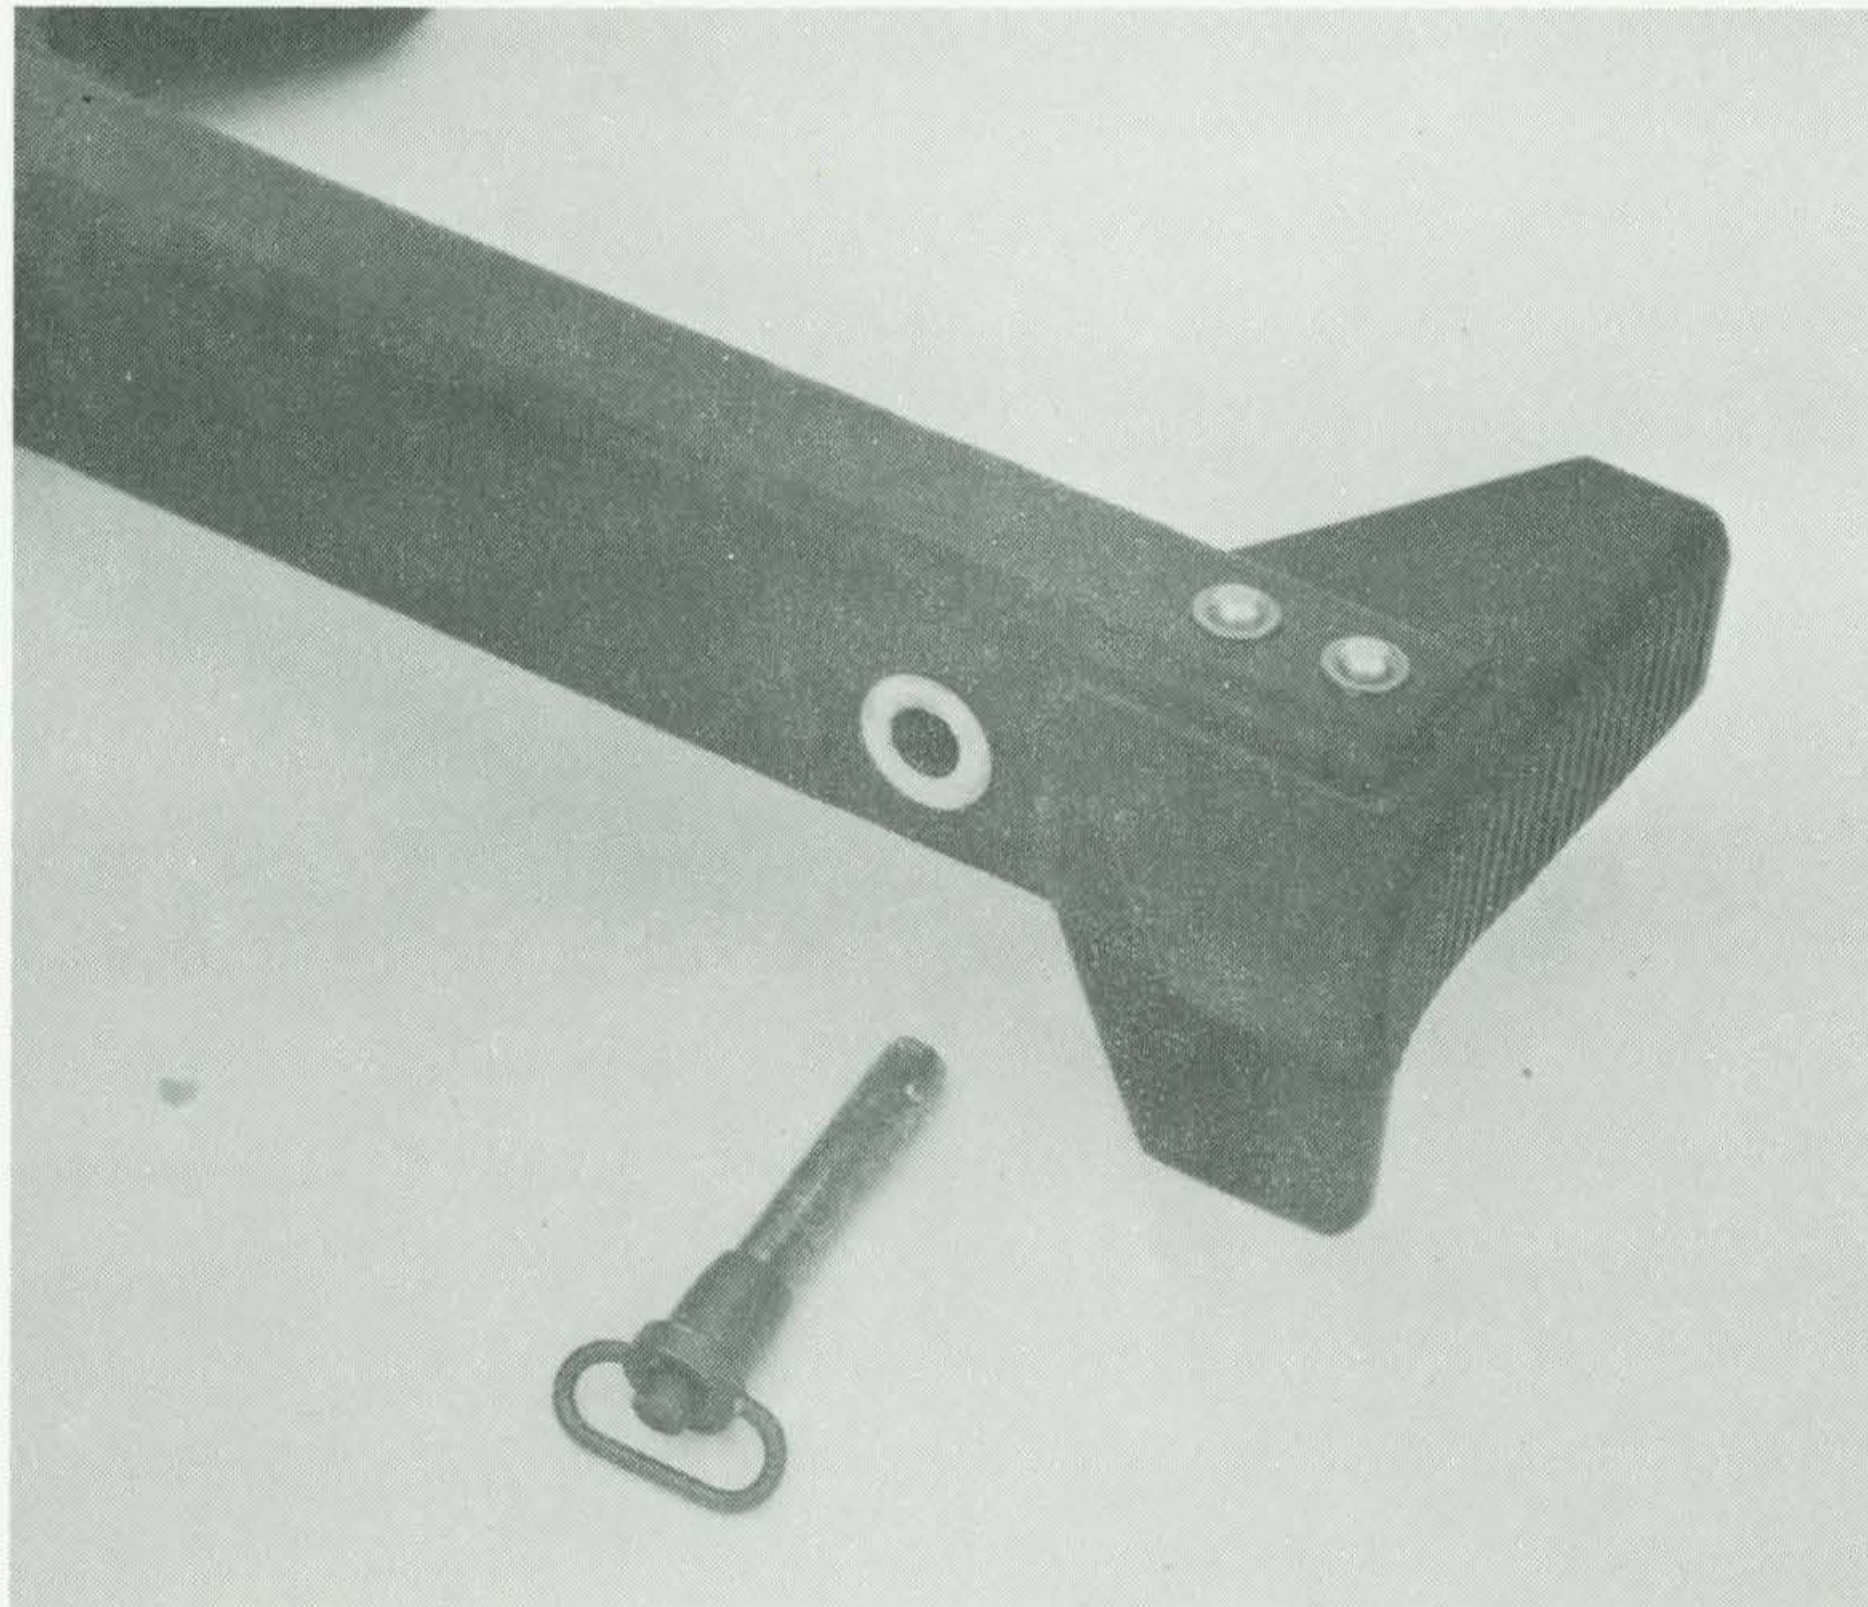

FIGURE 10. BUTTSTOCK PIN WITHDRAWN
- a) Depress center lock post of buttstock pin and simultaneously withdraw buttstock pin from buttstock (Figure 10).